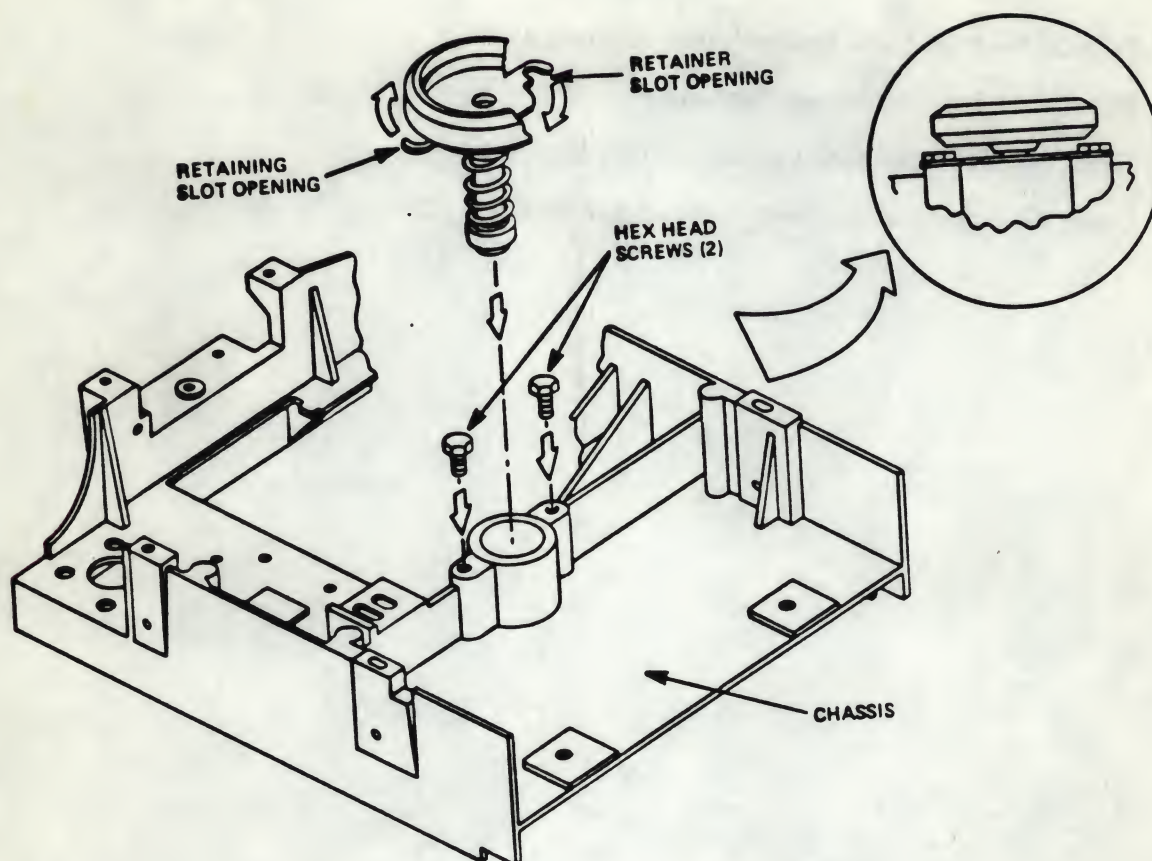

Figure 5-31
- 5.15.7 Using a one-quarter (1/4) inch wrench, loosen the two (2) hex head screws that attach the Spindle Assembly to the top of the chassis (see Figure 5-31).
- 5.15.8 Rotate the retainer counterclockwise until its slot openings no longer are held by the two (2) hex head screws (see Figure 5-31).
- 5.15.10 Insert the new Spindle Assembly carefully into its mounting hole at the top of the chassis (see Figure 5-31).
- 5.15.12 Using a one-quarter ($\frac{1}{4}$) inch wrench, tighten the two (2) hex head screws that attach the bearing retainer to the chassis (see Figure 5-31).